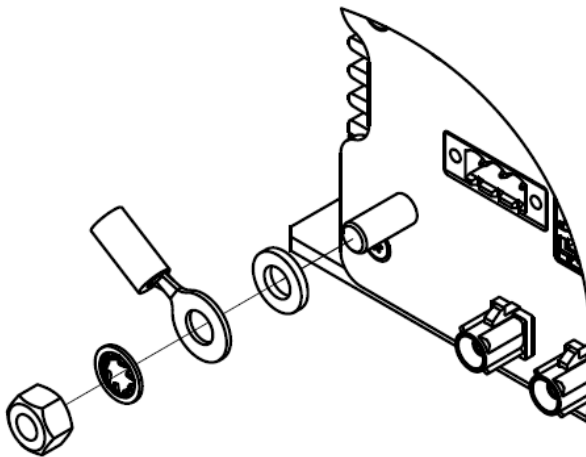

Figure 7 **Earth Cable Mounting on Earth Stud**
- Mount the earth cable as shown in Figure 7.